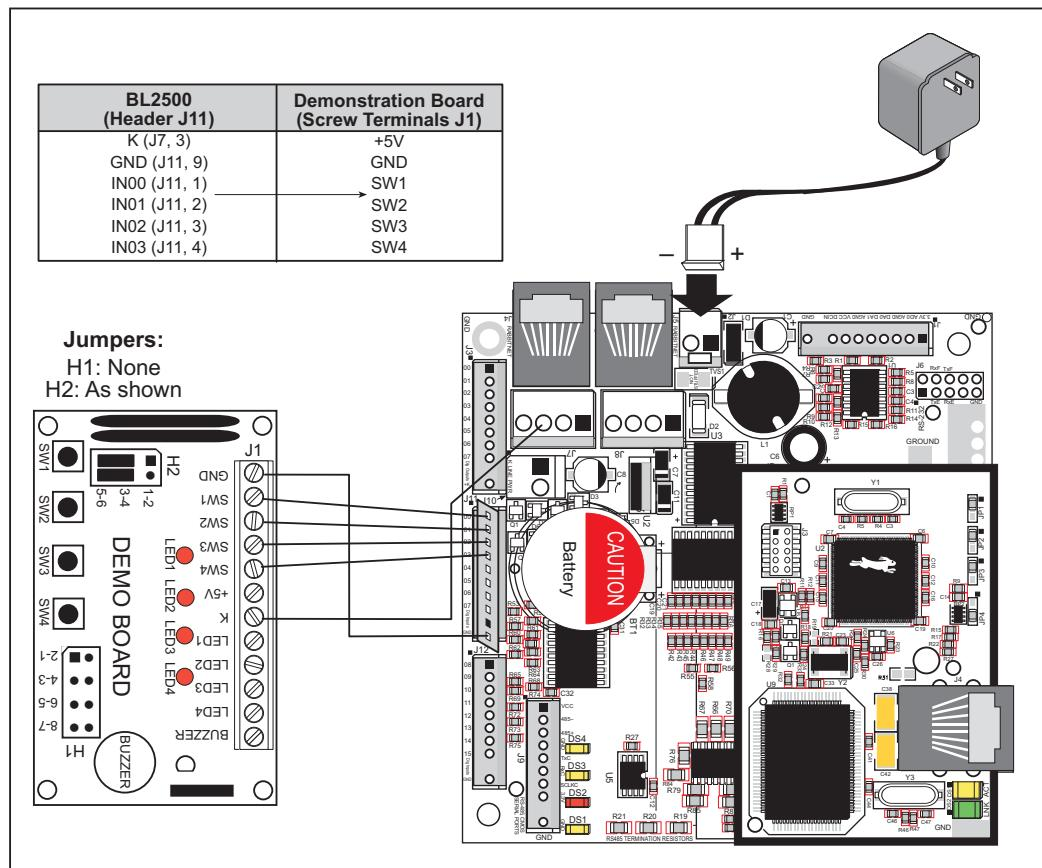
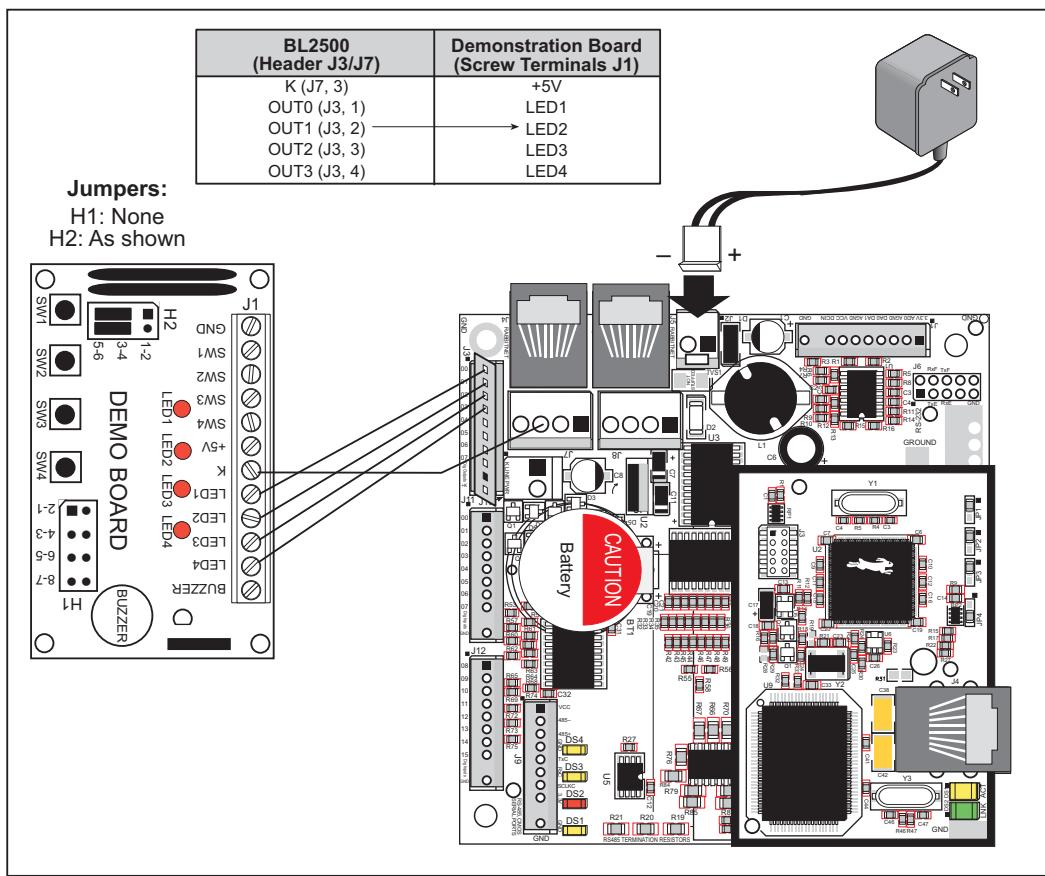
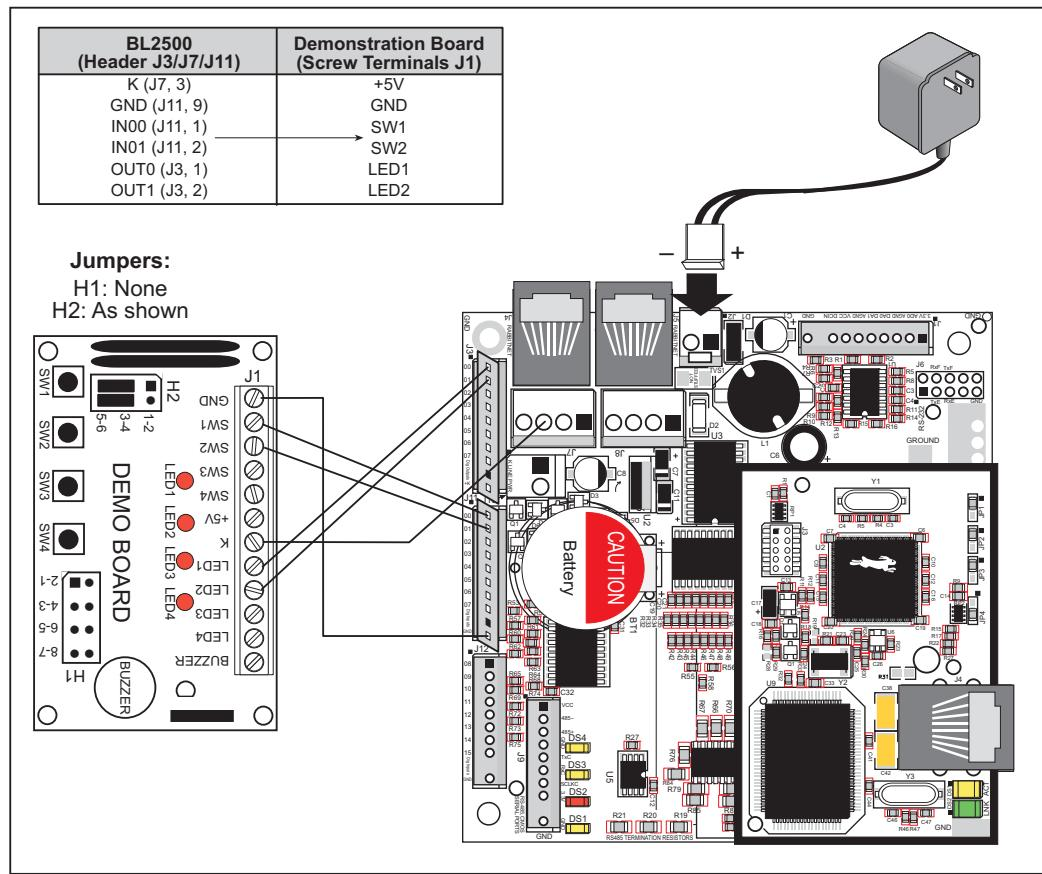

Figure C-3. Connections Between Coyote and Demonstration Board for DIGIN.C Sample Program
Figure C-4. Connections Between Coyote and Demonstration Board for DIGOUT.C Sample Program
Figure C-5. Connections Between Coyote and Demonstration Board for TCP/IP SMPT.C Sample Program
1. Use one of the wiring harnesses you have built to connect header J1 on the Demonstration Board to the Coyote. The connections are shown in Figure C-3 for sample program **DIGIN.C**, in Figure C-4 for sample program **DIGOUT.C**, and in Figure C-5 for the **BL2500\TCPPIP** TCP/IP sample programs.